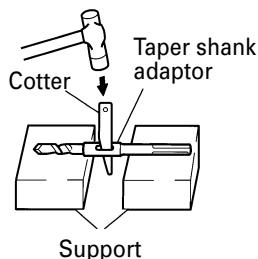

Fig. 11
- To remove the drill bit with taper shank, insert a cotter into the slot of the taper shank adaptor, place supports under the Rotary Hammer and tap the cotter with a manual hammer. (Fig. 11)